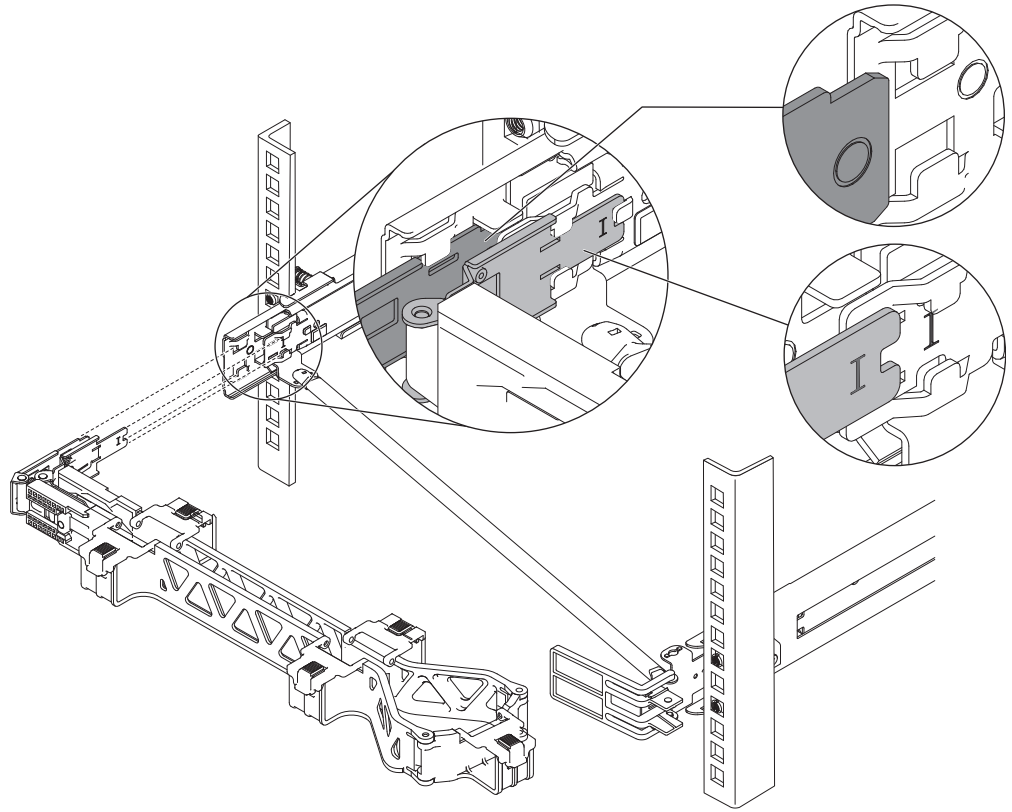

Figure 30. Installing the cable management arm
4. Install the cable management arm as shown in Figure 30 on page 29.